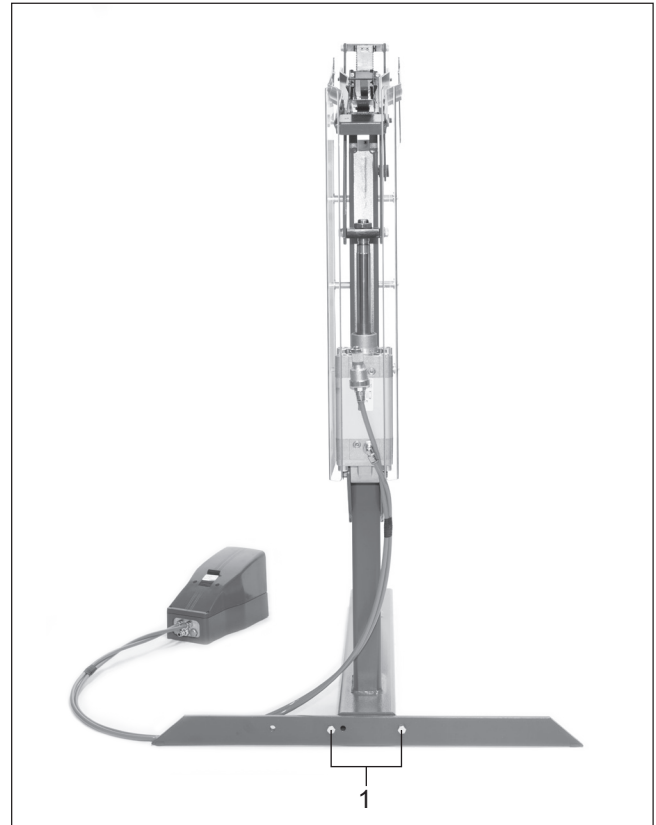

Fig. 3
2. Assemble the rear foot according to Fig. 3. Tighten the two screws, (Fig. 3/1).